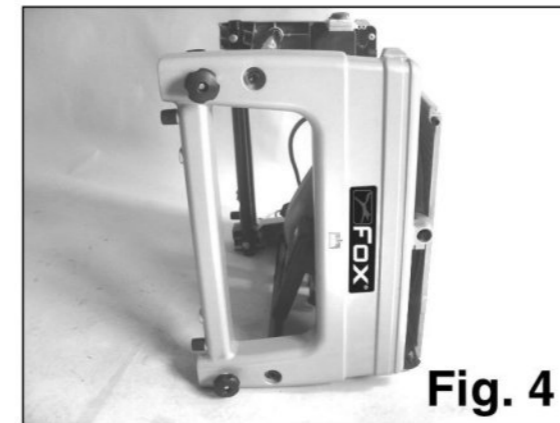

Fig. 4
2. Switch the machine body back, as shown on the pictures below Fig.4, this allows more easily to put the feet of the saw in the working position.